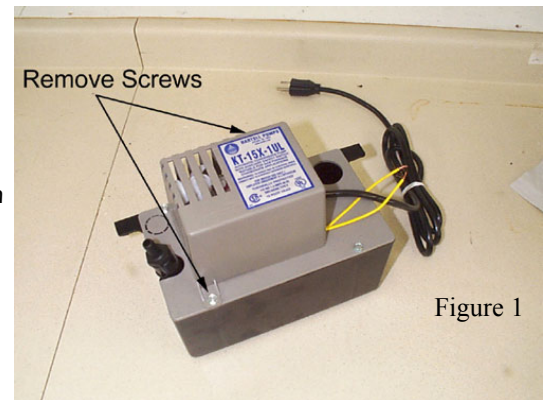

Figure 1
2. Remove the two screws as shown in figure 1. Remove motor cover.